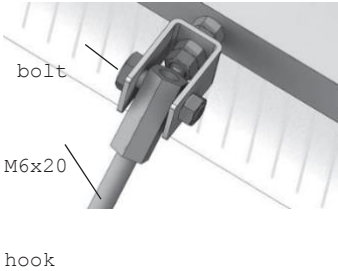

Fig. 7
8. Fasten a hook in flat-topped arm using a bolt M6x20 with nut M6 (Fig. 7).